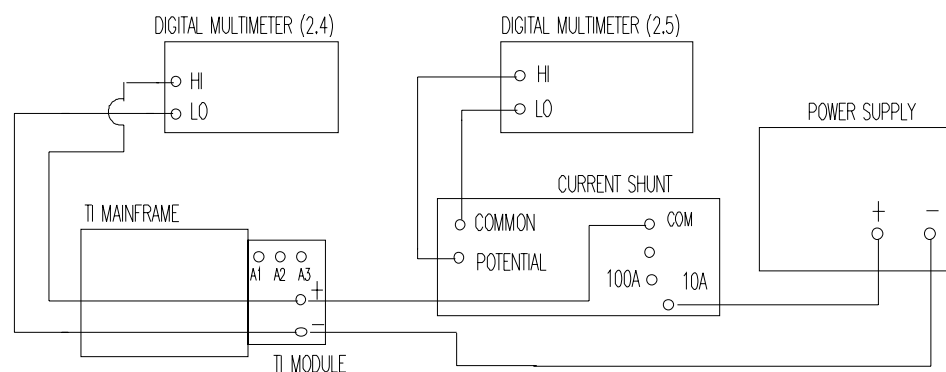

Figure 5.
4.3.1 Connect equipment as shown in Figure 5, observing polarity.